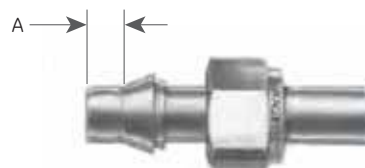

Figure 35: Tubing Dimensions
2. Install the .375" (9.53 mm) O.D. tubes (refer to Table 12 for sizing of tubing) into the fittings for the inlet and dome ports. Make sure the tube ends are fully inserted before torquing. Begin torquing the fitting, about midway down, verify that Swagelok\* gap inspection gauge (Swagelok\* P/N MS-IG-468) will go. Continue to torque down fitting until Swagelok\* gap inspection gauge will not go. After torquing, remove to assure the ferrule is in good contact with the tubing. Refer to Table 11 and Figure 35 to determine if ferrule has seated itself properly. Reinstall the tubing.